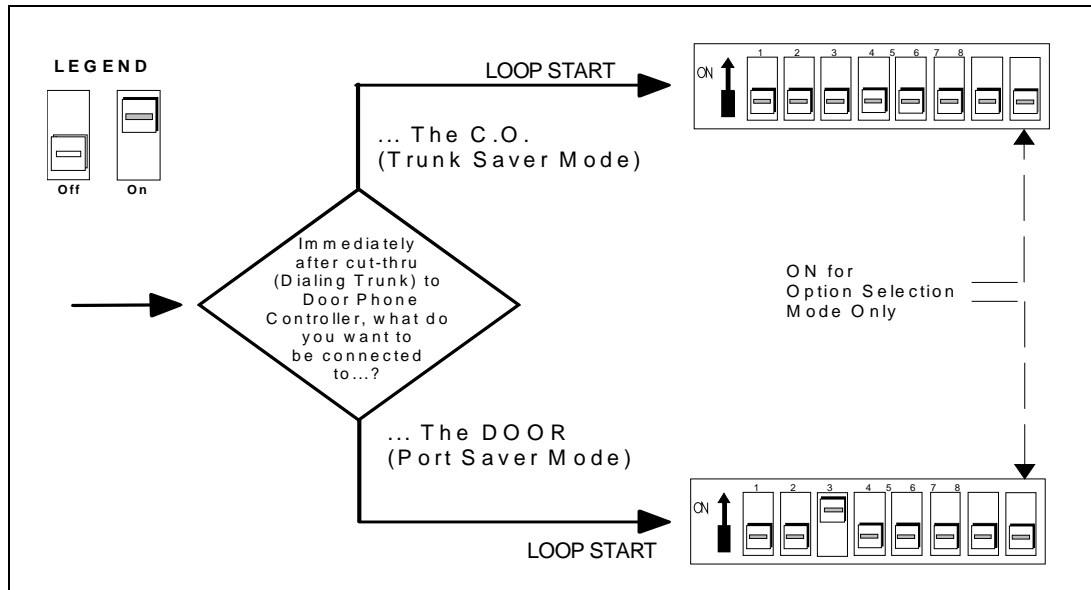

Figure 4-1. DIP Switch Setting for PBX with Dedicated Trunk Port
To customize the PagePac® Door Phone Controller to your specific installation and option requirements, you must properly set the 8-position DIP switch located on the Door Phone Controller front Panel (see Figure 4-1).
*Note: Use the Flow Chart in Figure 4-1 to properly set the DIP switch.*
When using the Door Phone Controller with a telephone system which has an available dedicated trunk, set the DIP switch as shown in Figure 4-1. Prior to setting this DIP switch, you must know if the dedicated trunk is Loop Start or Ground Start; this information can be obtained from your local telephone company.